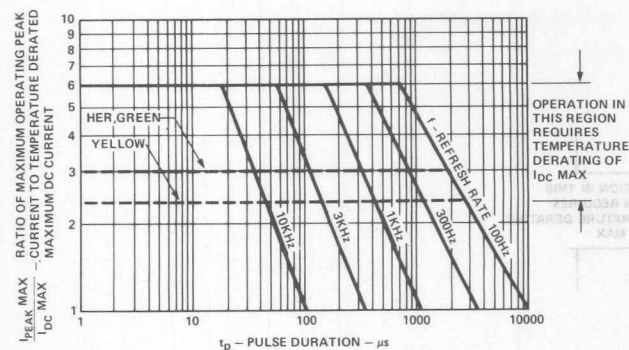

Figure 6. Maximum Allowed Peak Current vs. Pulse Duration
- See Figure 6 to establish pulsed operation. Maximum pulse width is 2 mS.